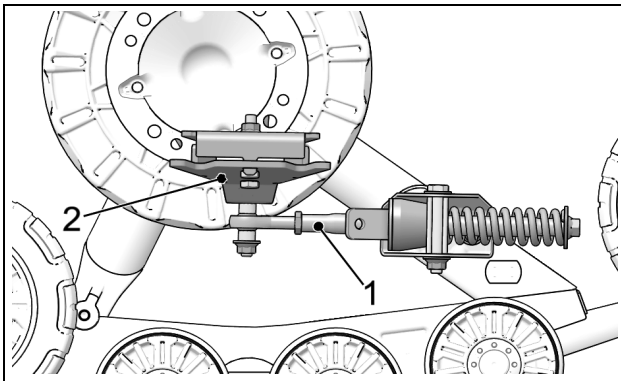

Figure 3
- Stabilizing arm (1) must be attached to the front anchor bracket (2) installed on the vehicle. See Figure 3.